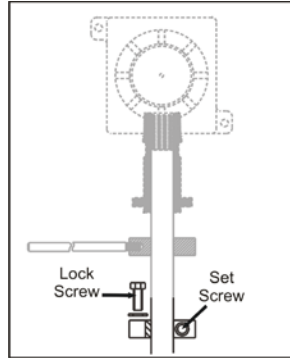

Figure 3
- Loosen the set screw (see Figure 3) in the lock collar, and move the collar to the position noted in the previous step.